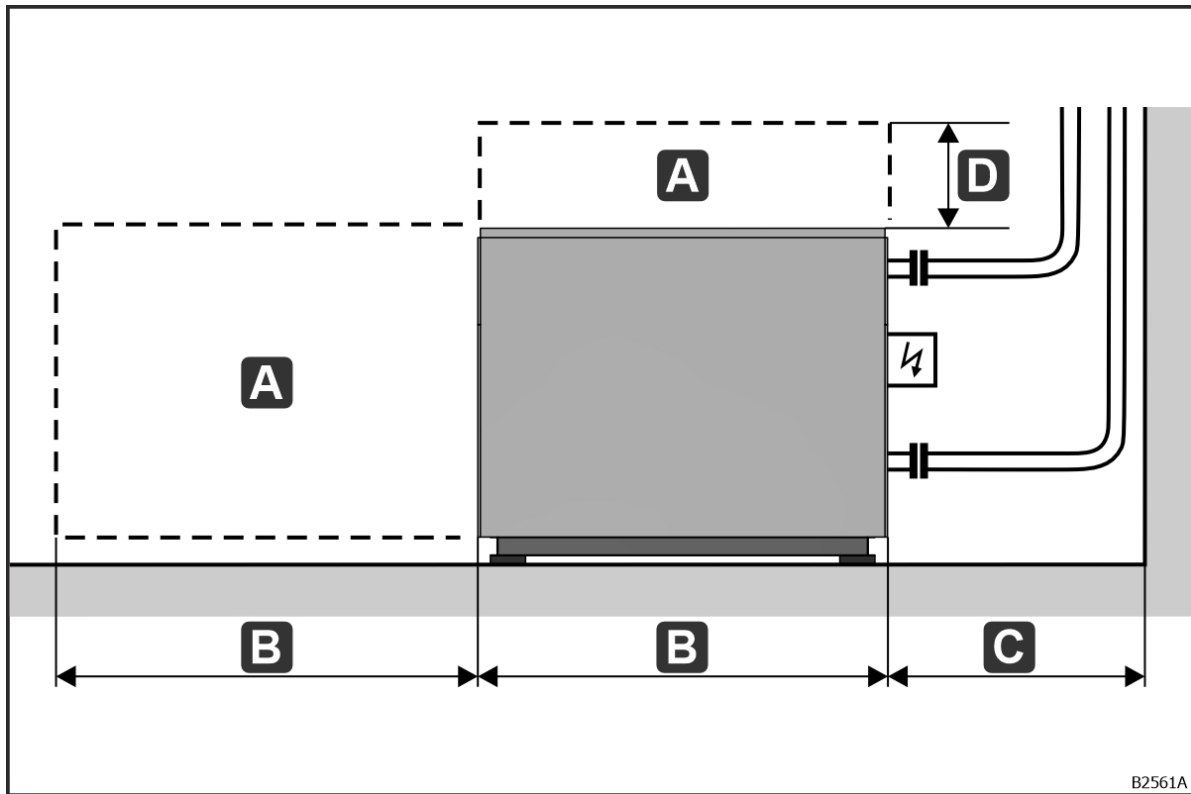

Fig. 1: AHU footprint requirements
- The outdoor air intake must be located at a certain distance from the extract air outlet, depending on the EHA class and volume flow (see CEN TR 16798-4 Figure 1).
- Distance to the extract air outlet: The extract air outlet must be located at a certain distance from the outdoor air intake, depending on the EHA class and volume flow (see CEN TR 16798-4 Figure 1).